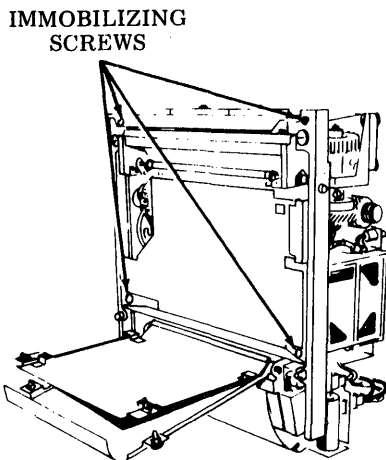

Fig. 16—Friction Feed Immobilization
6.01 Loosen four immobilizing screws a minimum of four turns until base rides freely on the shock mounts (Fig. 16).